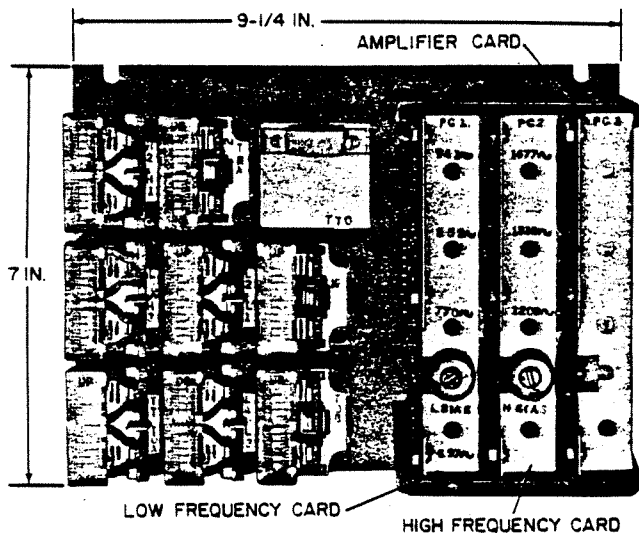

Fig. 4—247A KTU TOUCH-TONE Adapter, Front View
- Unit, Telephone, Key 247A (MD) (Fig. 4 and 5)